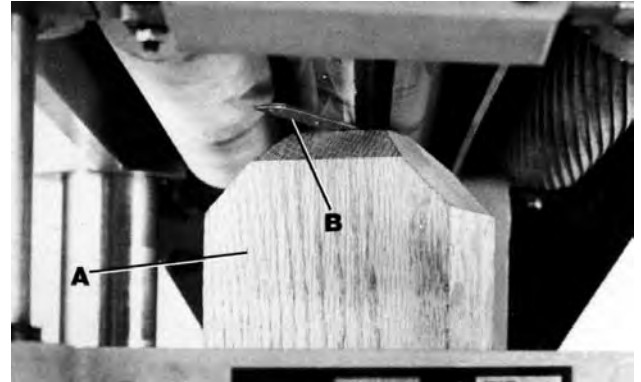

FIGURE 21
3. Place a constructed gauge block (A) Fig.21 on the table directly under the cutterhead as shown. Using 0.020" feeler gauge (B) placed on top of the gauge block, raise or lower the head assembly until one of the knives just touches the feeler gauge when the knife is at its lowest point. Then lock the head assembly in this position.